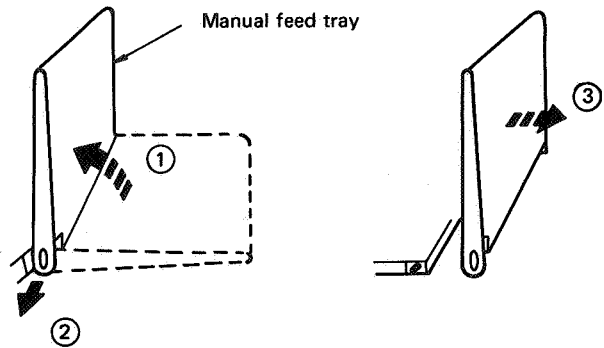

Figure 4-7
- (1) Raise the manual feed tray. ①
- (2) Pull the left top edge of the tray and release the tray from the projection on the panel. (See Fig. 4-7, ②)
- (3) Take off the tray by pulling it in the direction of arrow ③ in Fig. 4-7.